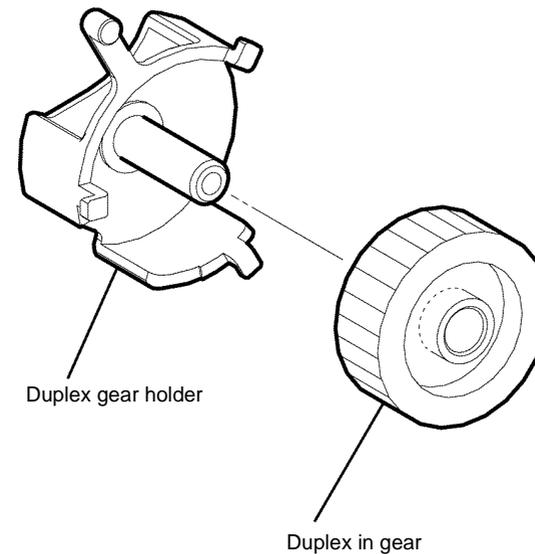

Figure 2 Duplex in gear removal
3. Remove the duplex in gear from the duplex gear holder, Figure 2.